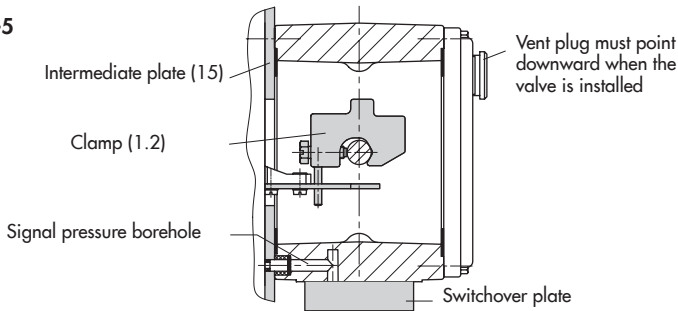

Fig. 5-2: Mounting the clamp
- ➔ See Fig. 5-2
The signal pressure is transmitted to the diaphragm chamber over the switchover plate (Fig. 5-1 and Fig. 5-2, bottom).